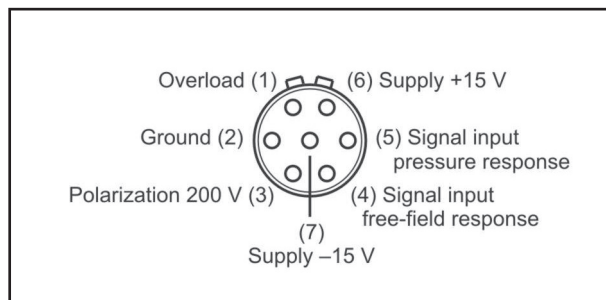

Fig. 2.2 7-pin LEMO EGA 307 1B input socket (external view)
- 7-pin LEMO EGA 307 1B input socket for the microphone and Preamplifier signal. Wiring diagram shown in Fig. 2.2.